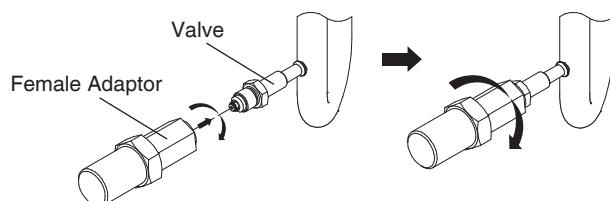

Figure 4
4. Install the sub assembly adaptor PRV to the unit which is the adaptor (0151V00003) side (7/16-20 UNF Female side) on the gauge port- check valve and tighten the adaptor (Figure 4). Use heat resistant sealant (field supplied) to ensure proper sealing.